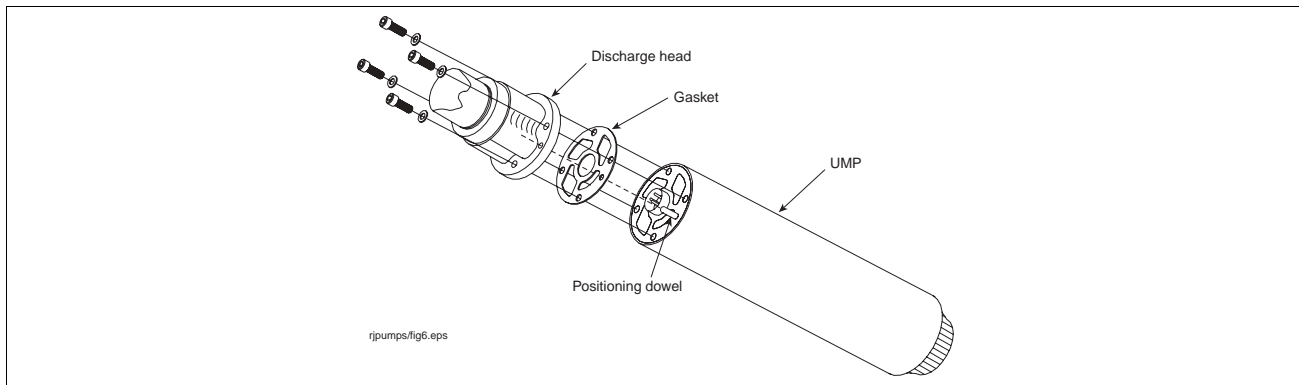

Figure 8. Aligning the UMP gasket
2. Place the new gasket on the new UMP so that all holes align (see Figure 8).
4. Install the UMP retaining bolts and lock washers (ref. Figure 8). Snug and then torque the bolts using a cross pattern. Torque to 7 ft-lbs (11 N•m).